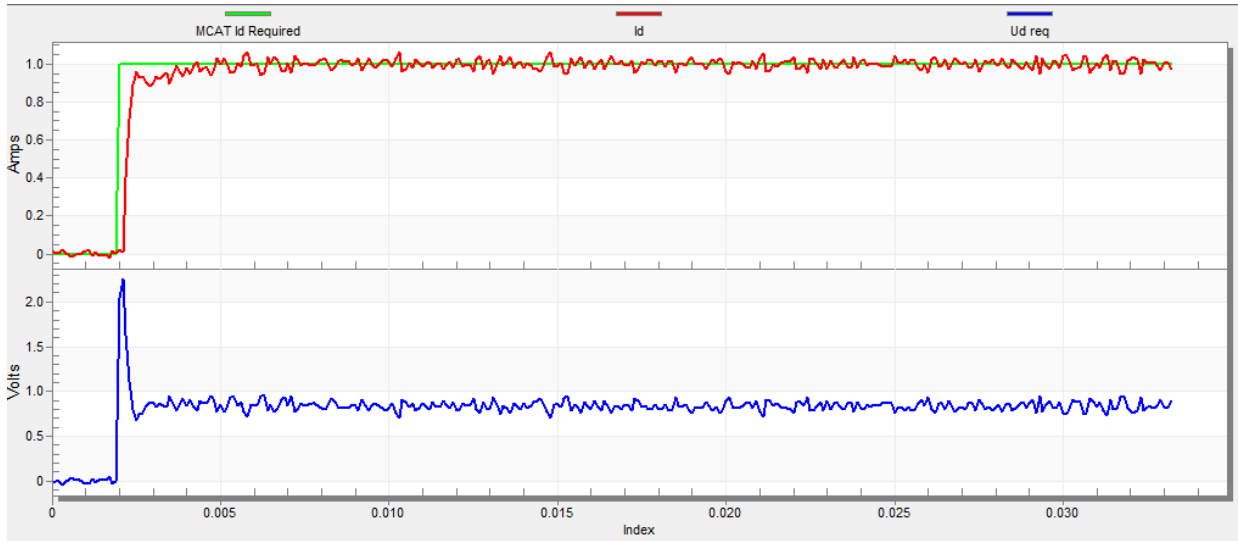

Figure 51. Optimal step response of the Id current controller
- The loop bandwidth (400 Hz) is optimal and the response time of the Id current is sufficient (see Figure 51).